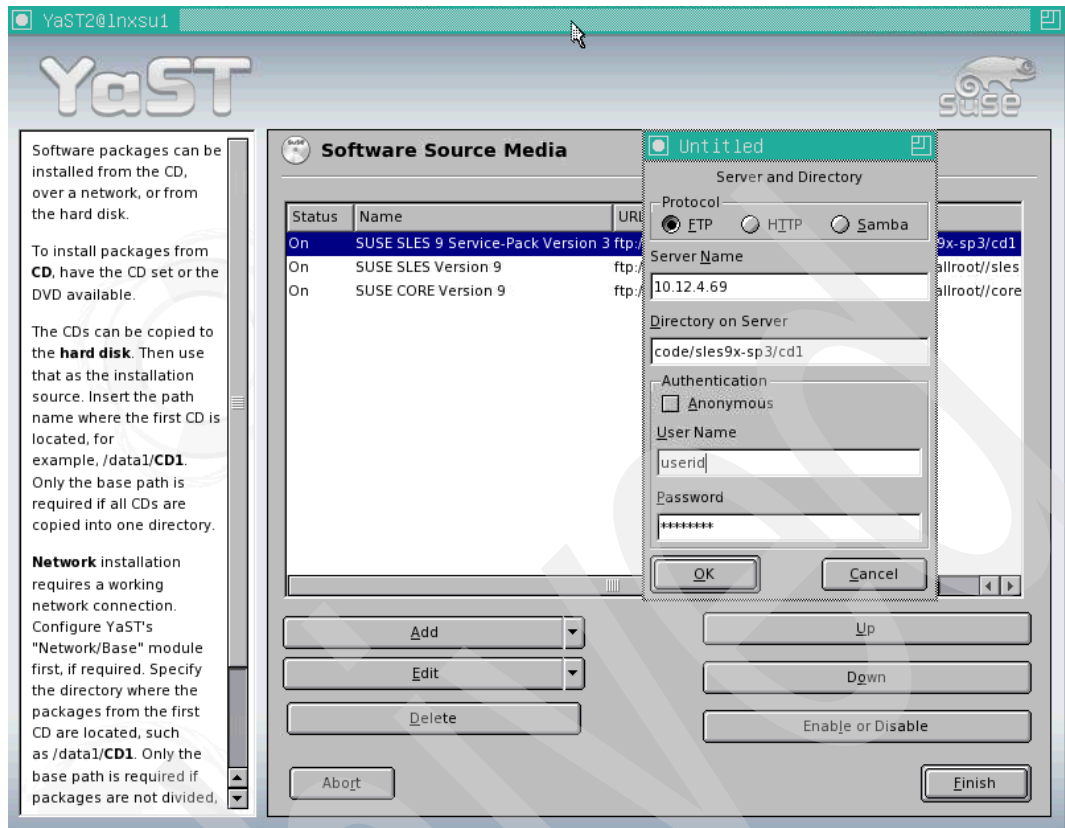

Figure D-4 FTP parameters in FTP server definitions window
- b. On the window that displayed, as shown in Figure D-4 on page 303, we entered the following: